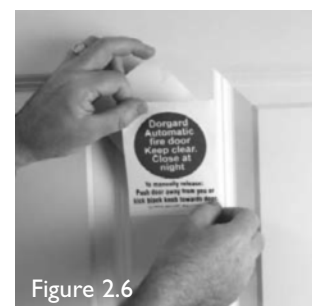

Figure 2.6
- 8) Affix fire door sticker supplied at eye level on the same side as the Dorgard. **(Fig 2.6)**